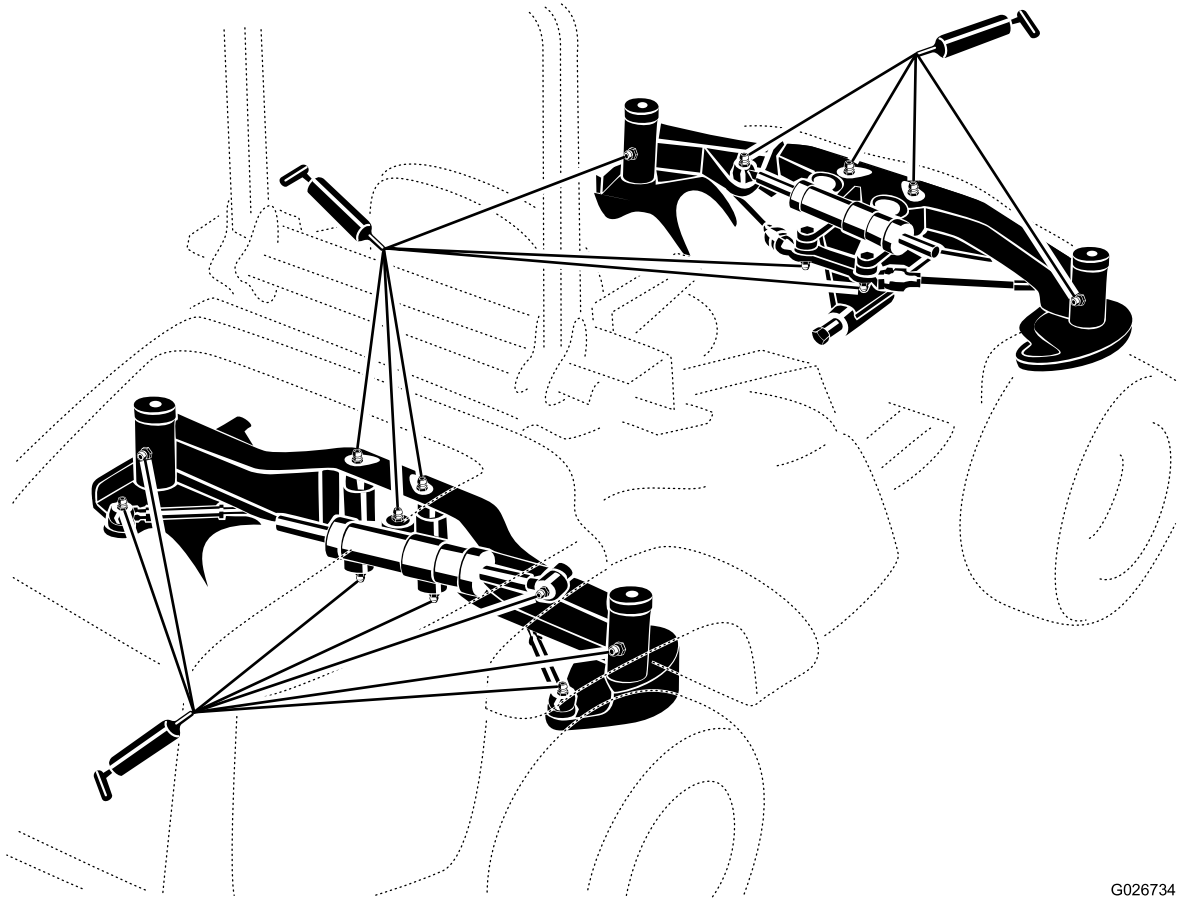

Figure 29
1. Wipe the grease fittings clean so that foreign matter cannot be forced into the bearing or bushing (Figure 29).